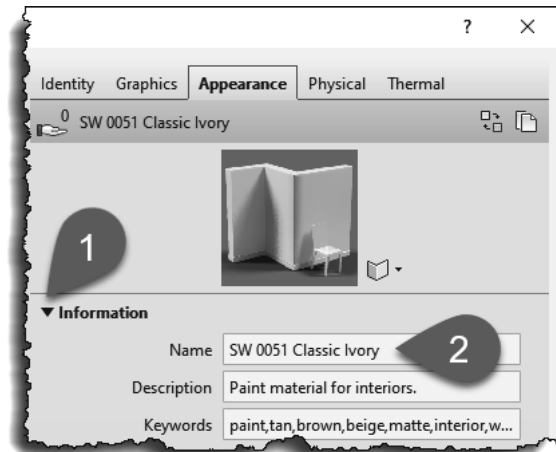

FIGURE 4-3.15 Rename new asset
48. Expand the **Information** area in the *Appearance* tab (Figure 4-3.15).